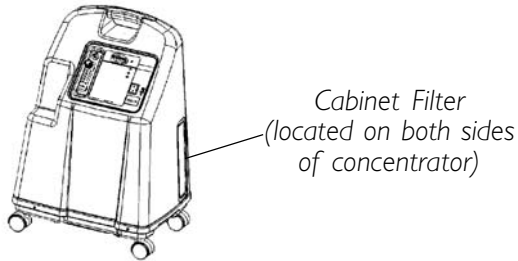

FIGURE 1 - CABINET FILTER LOCATION
NOTE: There are two (2) cabinet filters. One (1) is located on each side of the cabinet (FIGURE 1).